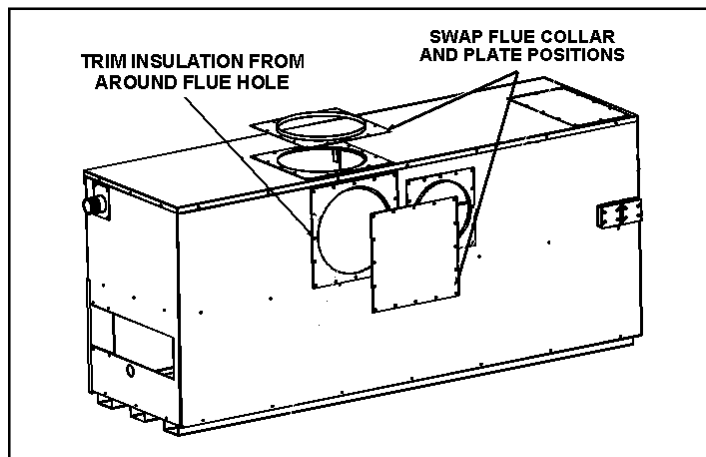

Figure 3. Switching from Vertical to Horizontal Venting.
2. Trim the insulation from around the rear flue hole in the jacket and the fluebox. Support insulation from inside the fluebox to facilitate cutting. Use safety precautions such as gloves. Place the gasket and vent adaptor in the horizontal position. Place the gasket and flue plate in the vertical position as shown in Figure 3.